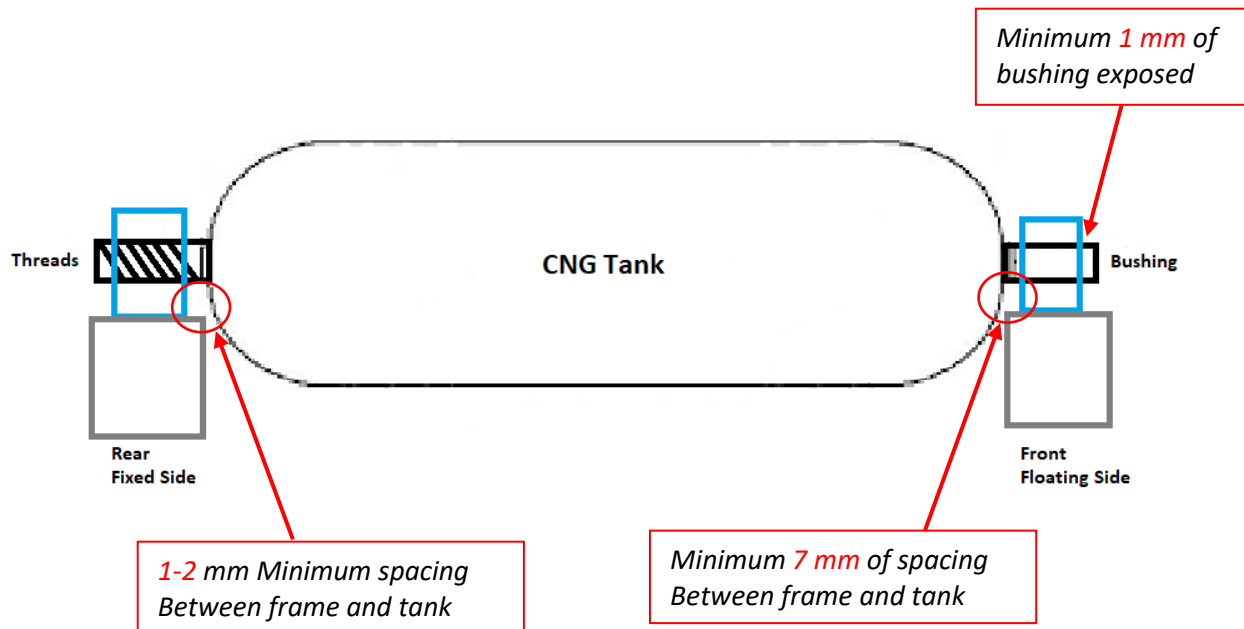

Figure 20 - For a Defueled Cylinder – Fully Contracted Diagram
- After you have created space by moving the tank at the rear frame make sure you recheck your clearances at the front frame again. You will want to tighten all the bolts back down to confirm the spacing, please see Figure 20 below. See Section 5.1 for torque values.